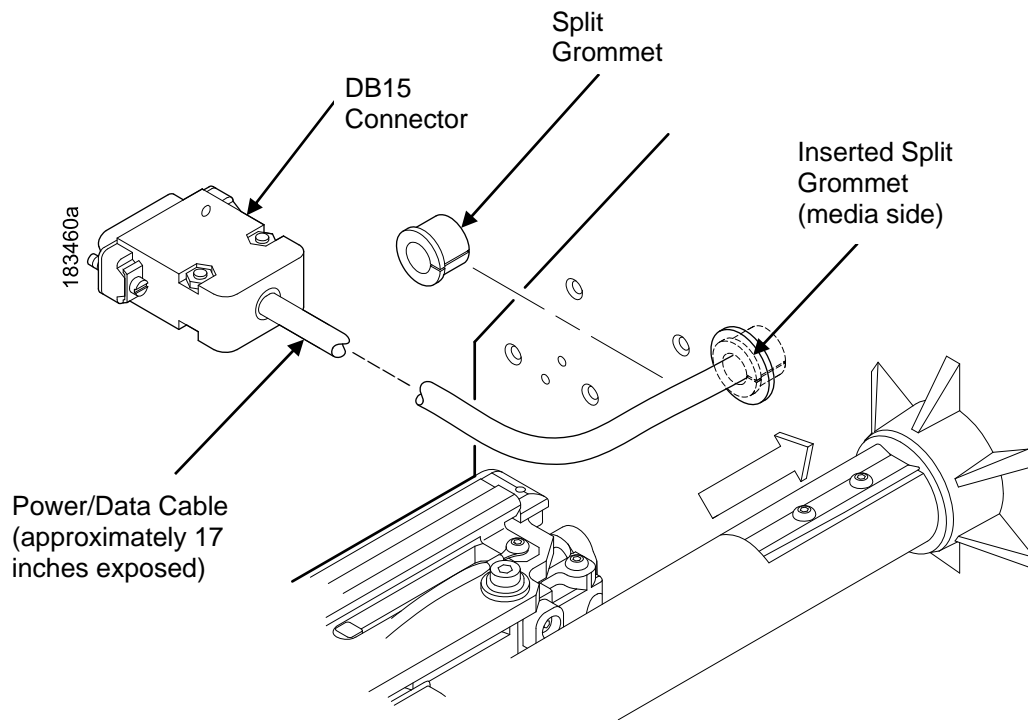

Figure 8 Adding the Grommet to the Power/Data Cable
13. On the media side of the printer, slide the split grommet onto the power/data cable and insert it into the frame opening. (Figure 8)